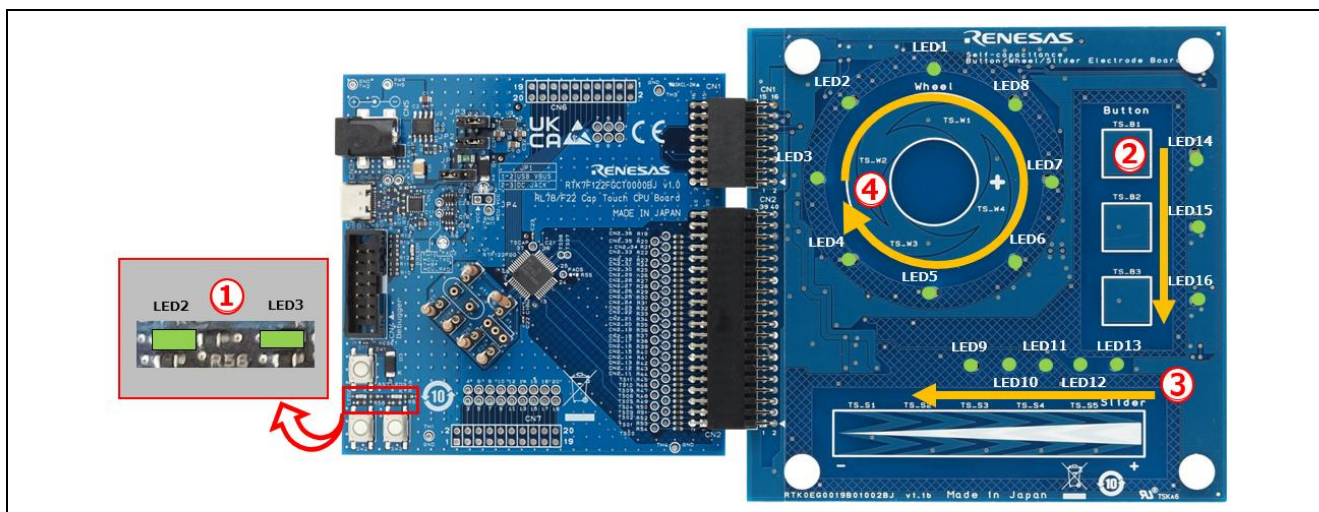

Figure 1-1 LED Testing During Software Startup
1. When the power is turned on and started, the LED test is performed. First, turn on LED2 and LED3 on the CPU board. After that, the LEDs on the electrode board are turned on and off in the order of buttons, slider, and wheel. (See Figure 1-1.)